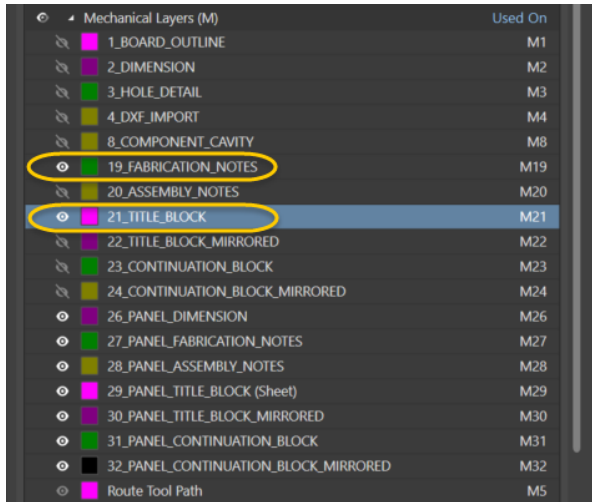

Figure 3. Mechanical layer display for referenced PCB
- b) Under the *Mechanical Layers (M)* section, click the eye  icon to hide layers 19_FABRICATION_NOTES and 21_TITLE_BLOCK as shown in Figure 3.